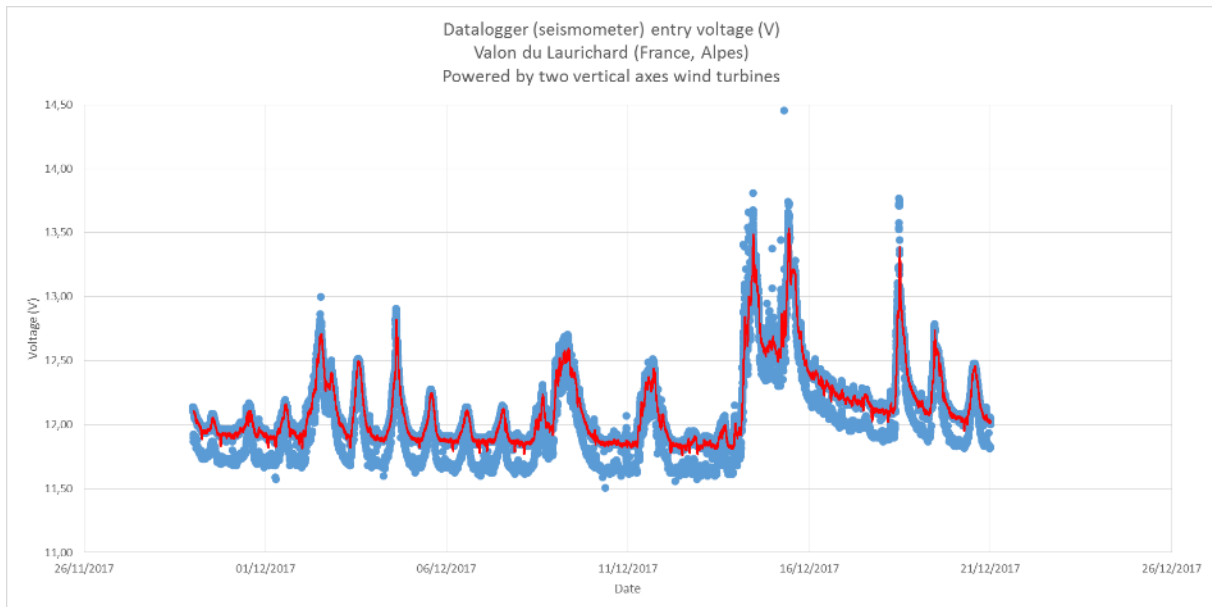

Figure 86 - Data logger (seismometer) entry voltage (V) Valon du Laurichard (France, Alpes) Powered by two vertical axis wind turbines.
The following Figure 86 presents the recorded seismic data logger entry voltage (V):